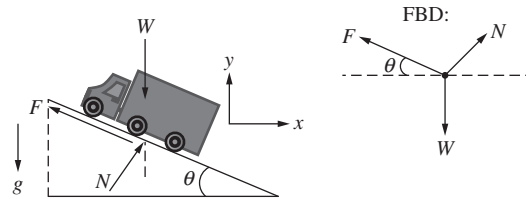

Figure P7.20 A truck parked on an inclined driveway.
- 7-20.** A truck weighing $W = 2000$ lb is parked on an inclined driveway ($\theta = 35^\circ$) as shown in Fig. P7.20. The forces F and N satisfy the following system of equations: